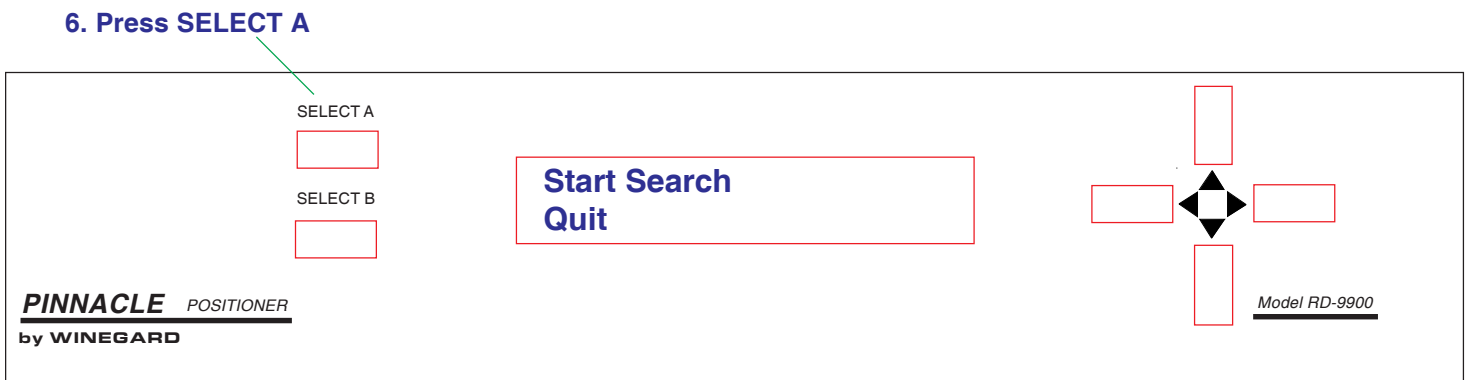

Figure 15
6. Press [SELECT A] **Start Search**, Figure 15. This will begin the search for the satellite. If you selected the wrong elevation, press [SELECT B] **Quit**, this will return you to step 3. Repeat 3 through 5 to select the correct elevation.